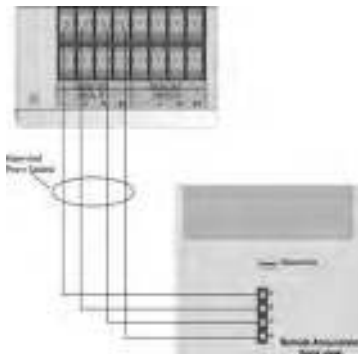

Figure 2: SBUS Connections
3. Connect the RA-2000 to the panel (see Figure 2).
Wire the RA-2000 to the FACP as Shown in Figure 2.
3. Wire the Annunciator board to the main control panel. See Figure 2.